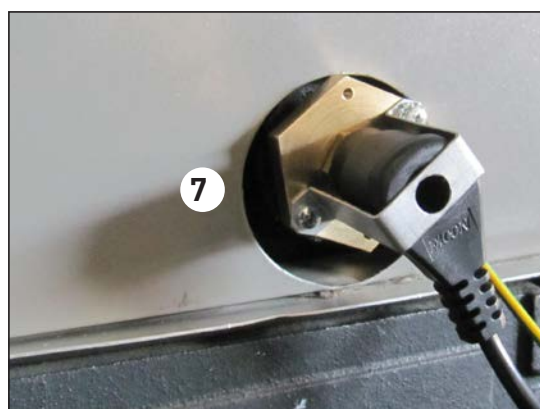

Fig. 13 Safety thermostat connector
- B) Connect the safety thermostat connector (7 fig. 13) the seven-pin plug (see WIRING DIAGRAM)